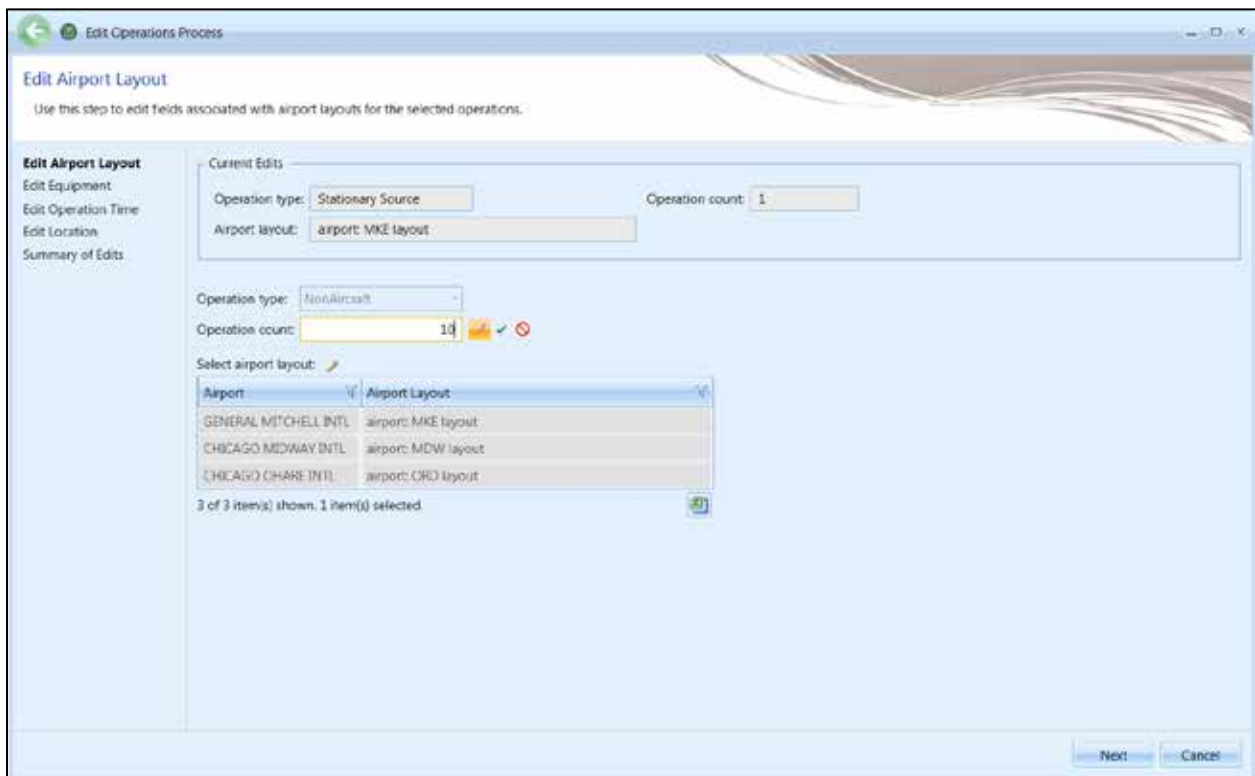

Figure 6-33 Bulk Non-Aircraft Operations Edit
3. In the *Non-Aircraft Actions* ribbon group, click *Edit* to open the *Edit Operations Process* wizard (Figure 6-33).